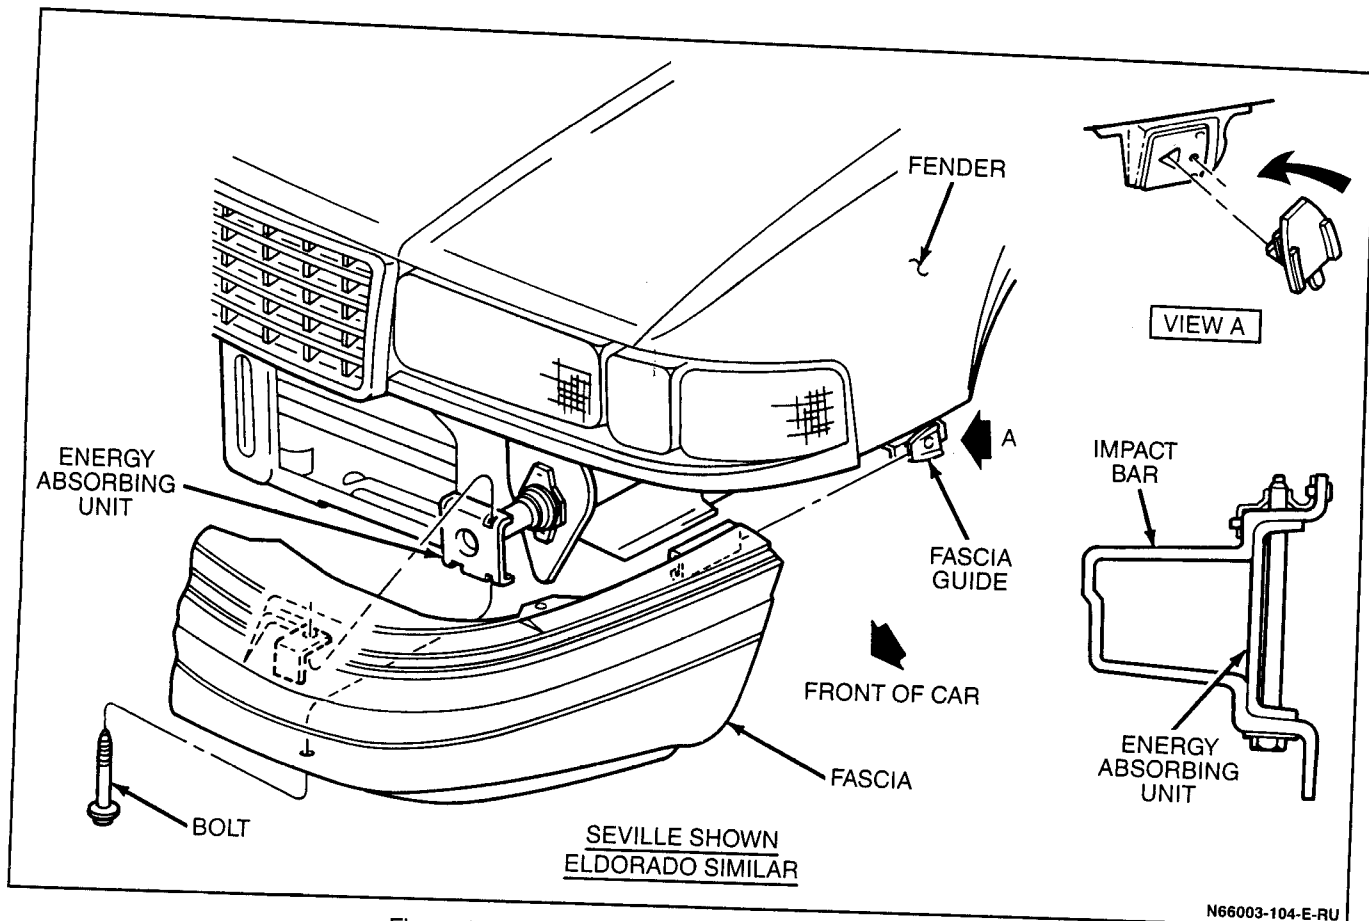

Figure 10-4-3 Front Bumper Removal and Installation
1. Side marker lamp (4) to fascia (7) (Eldorado).
3. Support bracket (5) (STS).
4. Position fascia center molding (1) to fascia. Engage snap tabs and secure with plastic rivets (6).
5. Position upper side moldings (3) to fascia. Engage snap tabs and secure with plastic rivets.
7. Push pins (four Eldorado, two Seville) retaining fascia to impact bar (10).
**Install or Connect****Figure 10-4-3**